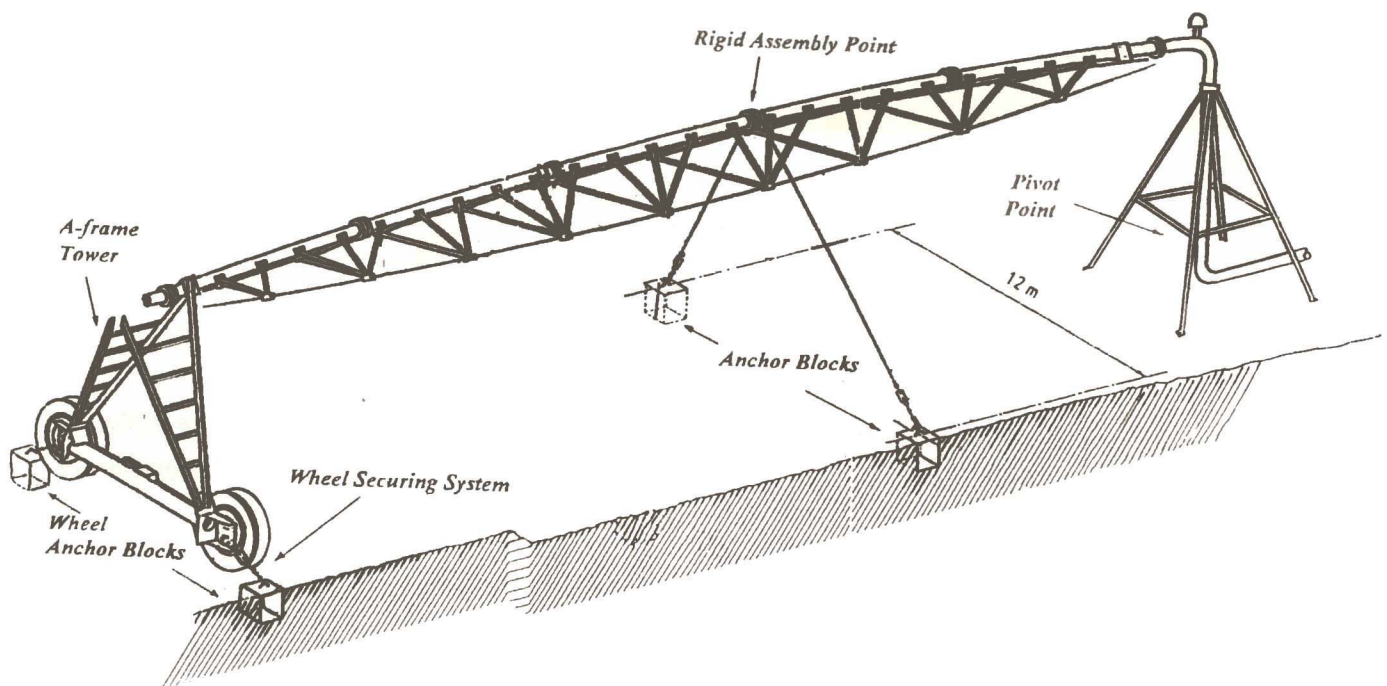

Fig. 1. Anchorage of the Centre Pivot Irrigation System
- Fig. 1 shows the anchorage of one span